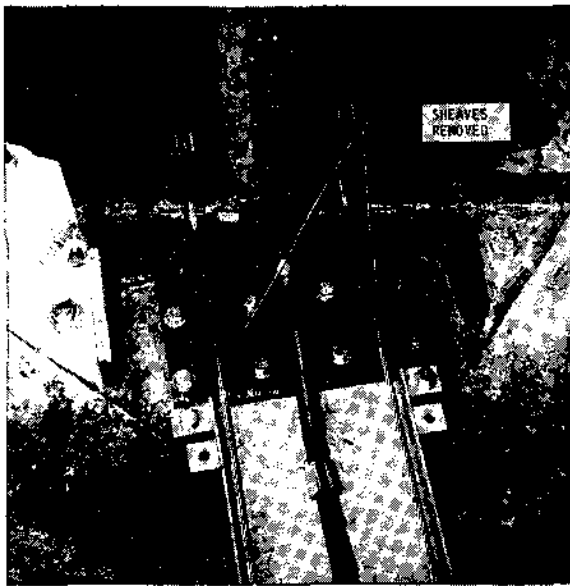

Fig. 16
19. Remove the two cable sheaves on each post that are near the trough by removing the nylock nuts and removing the hex head screws. (See figure 16).